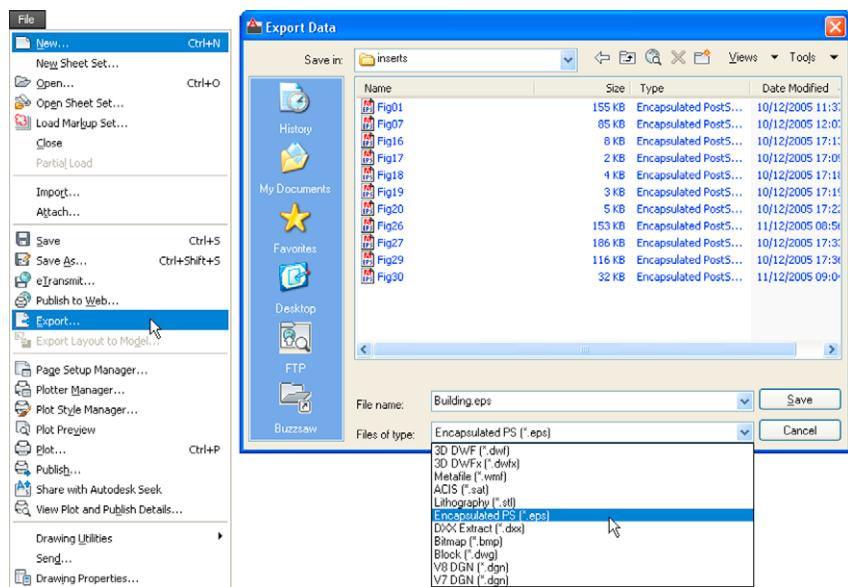

Fig. 10.3 The Export tool icon from the File drop-down menu and the Export Data dialog
First example – Copying and Pasting (Fig. 10.3)
- With the same drawing on screen click on **Export...** in the **File** drop-down menu (Fig. 10.3) or click **Export/Other formats** in the menu appearing with a click on the A icon at the top left-hand corner of the AutoCAD window. The **Export Data** dialog appears (Fig. 10.3). Pick **Encapsulated PS (*.eps)** from the **Files of type** popup list then enter a suitable file name (e.g. **building.eps**) in the **File name** field and click the **Save** button.